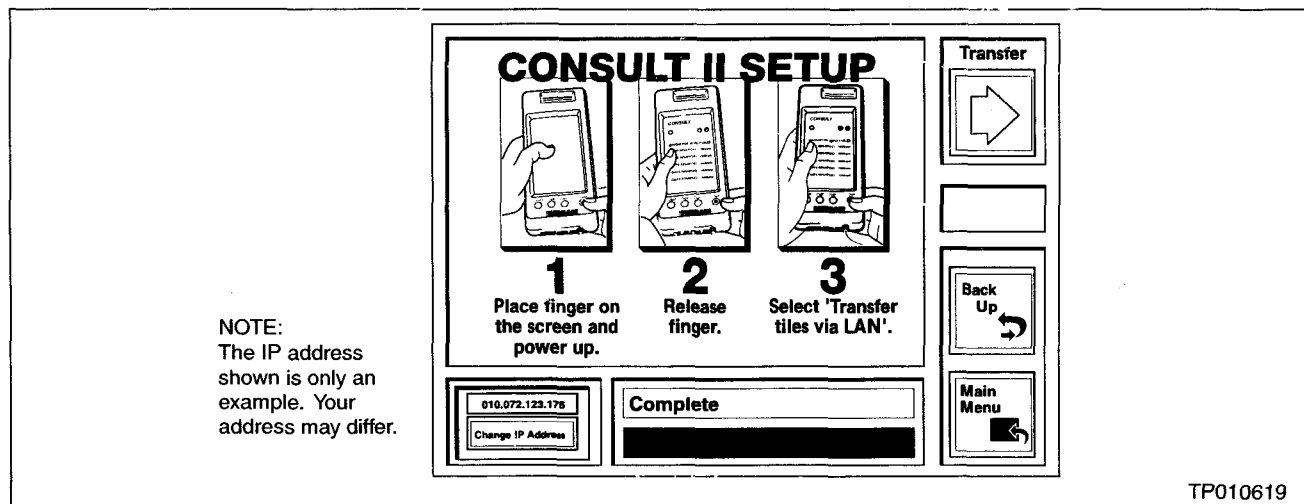

Figure 12
**CAUTION: DO NOT DISCONNECT THE ETHERNET CABLE UNTIL "COMPLETE" IS DISPLAYED AS SHOWN IN FIGURE 12.** If the cable is disconnected before "Complete" is displayed you **MUST** restart the download procedure. Otherwise ECM damage can occur.